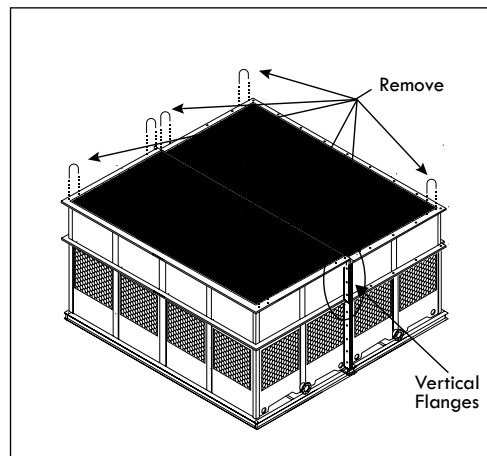

Figure A-29: Removing U-bolts from Lower Body section for a Four Fan Tower (RT-D or RTP-D)
- L. Follow the same instruction to install the Lower Body section #2 on top of basin section #2. Once both sections are installed, then proceed to bolt together the vertical flanges of Lower Body section 1 & 2 with the stainless steel nut and bolt set supplied by REYMSA. Remove U-bolts from both sections (see Figure A-29).